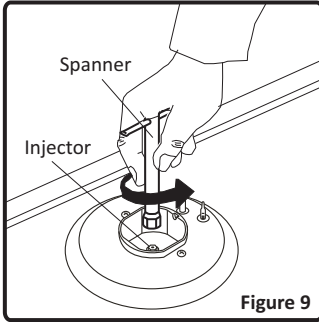

Figure 9
- Unscrew the injectors. For this, use a 7mm spanner(Figure 9).